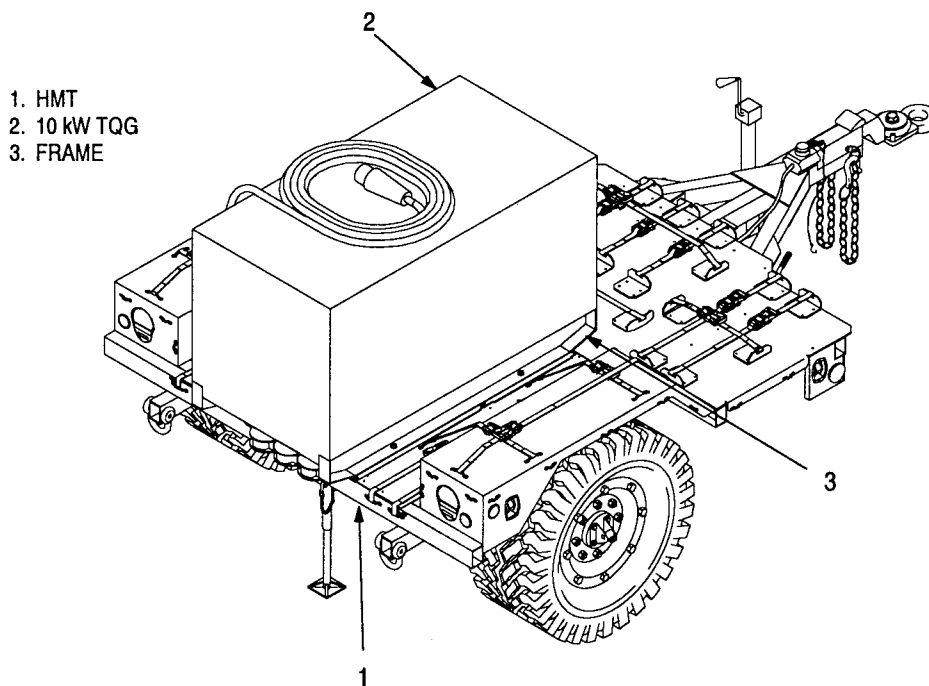

Figure 1-5. TQG and HMT
- (9) Air Filter. Used to filter the air beam air flow.
- (10) NBC Filters (three). Chemical agent air filters used to filter contaminants during NBC conditions.
- (11) Hydraulic Fluid Cooler Assembly. Cools hydraulic fluid during operation.
- (12) Evaporator Coils. Area where the R22 refrigerant absorbs heat from the surrounding air, leaving cool air to be blown into the interior of the CBPS.
- (13) Condenser Coil. Area where heat is removed from the R22 refrigerant, changing the refrigerant back to a liquid.
- (14) Hydraulic Heater Coils. Fin-tube exchanger which extracts heat from the hydraulic fluid passing through the coils. Air passing over the heated coils heats the interior of the CBPS.
- (15) Electric Heating Coils. Externally powered AC electrical heating coils used to produce heat in the CBPS. The CBPS is capable of four heat stages, however, the 10 kW TQG only provides sufficient power to support stage 1 (2.5 kW).
- (16) R22 Refrigerant Sight Glass. Provides visual indication of the refrigerant condition and level.
- (17) Hydraulic Fluid Temperature Sensor. Senses when hydraulic fluid temperature is too high. Warning indicator on rear control panel lights to alert operator of this condition. If temperature increases an unmutable audible alarm on the rear control panel sounds.
- e. TQG and HMT (figure 1-5).
- (1) HMT. High mobility, 1/4 ton HMT, towed behind the ECV. Used to carry the TQG and store medical supplies, camouflage and support equipment, and repair kits.
- (2) 10 kW TQG. Used to power the CBPS during static mode with power mode switch set to external power (EXT). The 10 kW TQG also supplies electrical power to the electrical heaters during extreme cold conditions with power mode switch set to internal power (INT).
- (3) Frame. Supports the 10 kW TQG on the HMT.